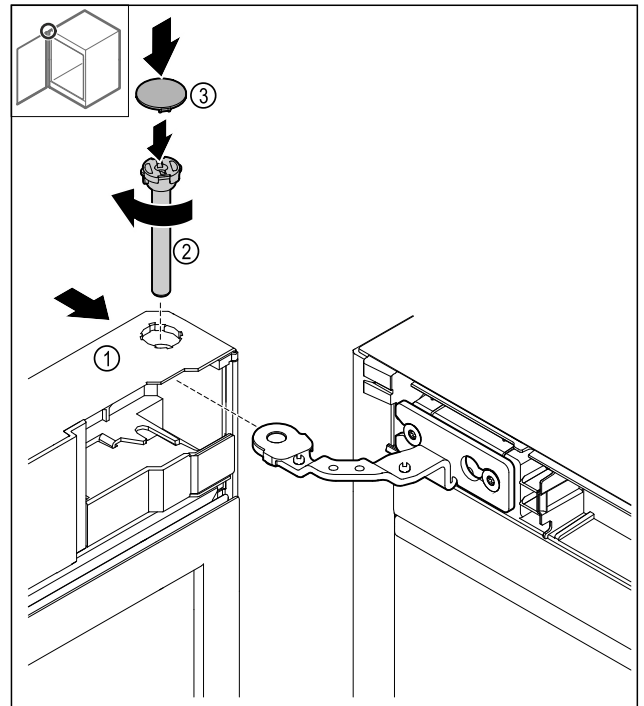

Fig. 50
- Push the door Fig. 50 (1) up onto the hinge.
- Insert the pin Fig. 50 (2) firmly screw it in clockwise.
- Put on the Fig. 50 (4) cover.